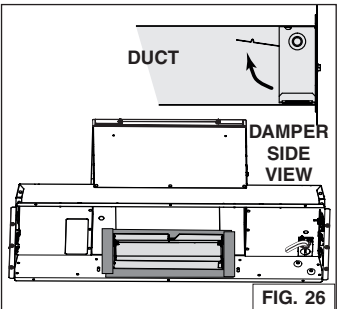

FIG. 26
4. From inside the unit, slide the 3/4" x 10" adapter/damper in the horizontal duct, then attach it to the unit using aluminum duct tape all around the joint (FIG. 26). Ensure the damper opens as shown in damper side view.